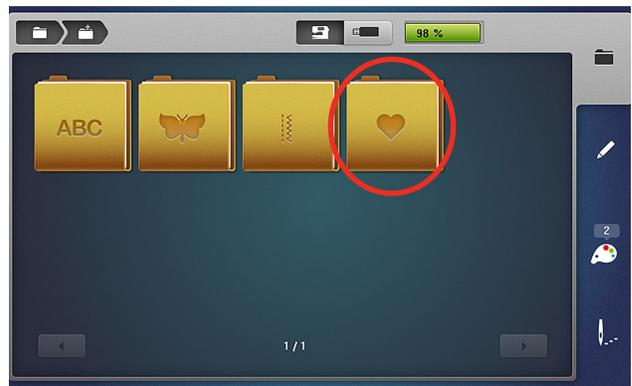

Fig. 33
3. To add to an existing motif, select Add Motif (+) from the Layer Bar, then Personal Memory (Fig. 33).